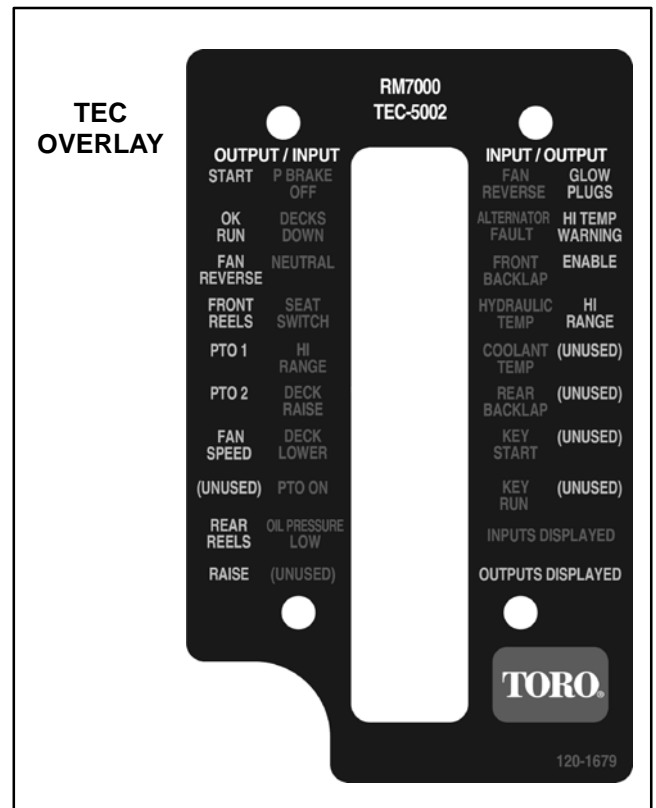

Figure 11
3. Connect the Diagnostic Display connector to the harness connector. Make sure correct overlay decal is positioned on the Diagnostic Display (Fig. 11).